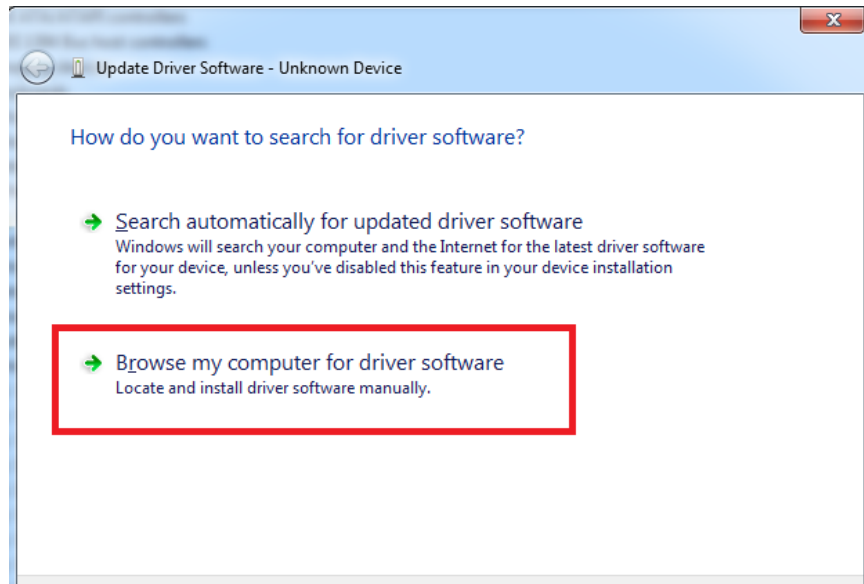

Fig. 4. Device driver software update message
- Press "Update driver software"; screen as in Fig. 4. should appear: